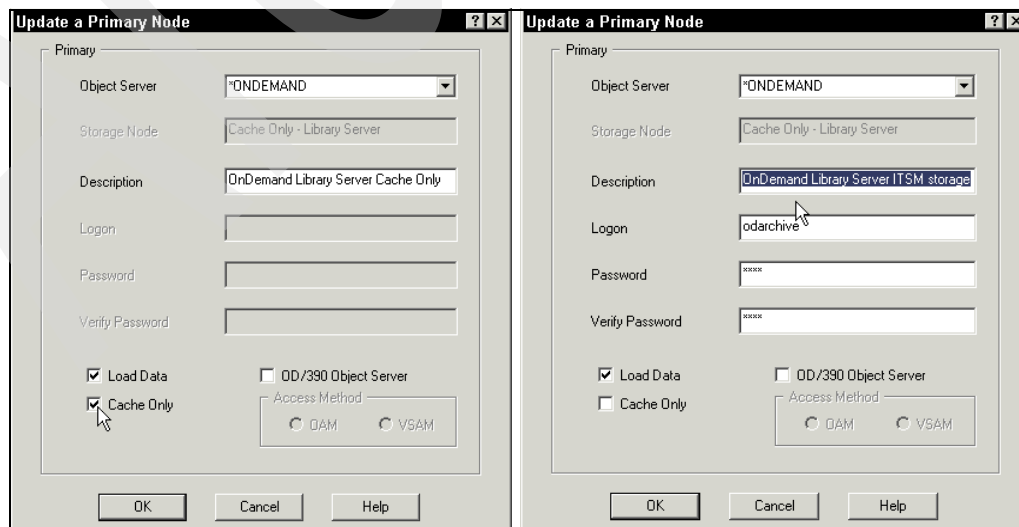

Figure 8-34 Update Primary Node windows
- e. From the Update a Primary Node window (see Figure 8-34):